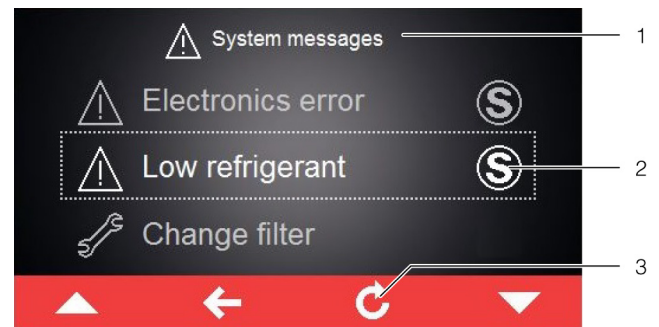

Fig. 27: Screen showing error messages
sage and in the control bar next to the symbol for system messages (fig. 27, item 2).